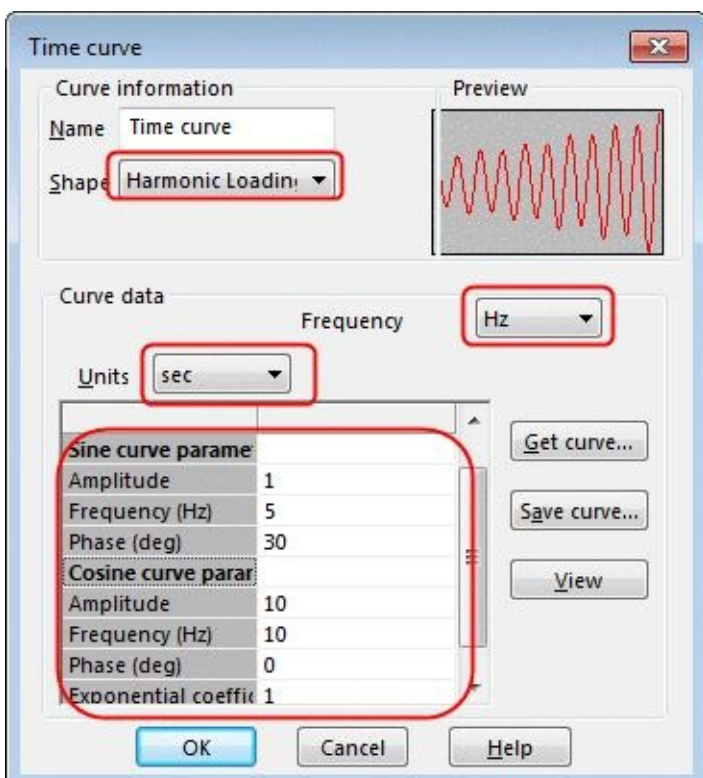

Figure-13. Parameters for Time curve
- Select **Harmonic Loading** option from the **Shape** drop-down and specify the parameters as shown in Figure-13. Specify the **Start time** and **End time** as **0** and **1** respectively, in the dialog box.